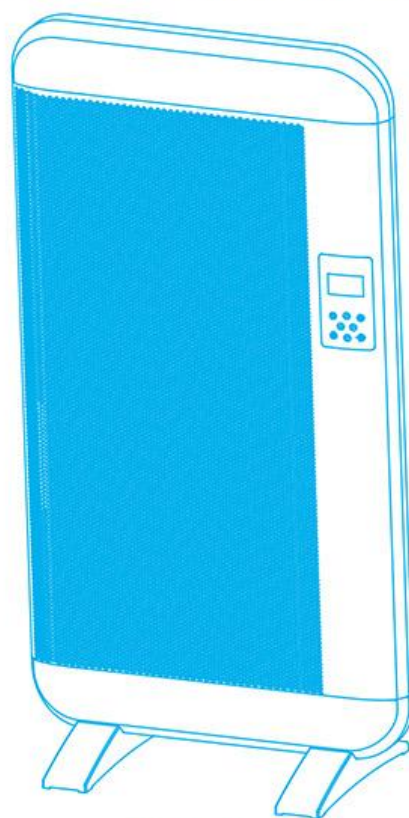

图2 Fig2
- 3、 Both foot base installed well,the heater will be reversed on the ground, Fig2.